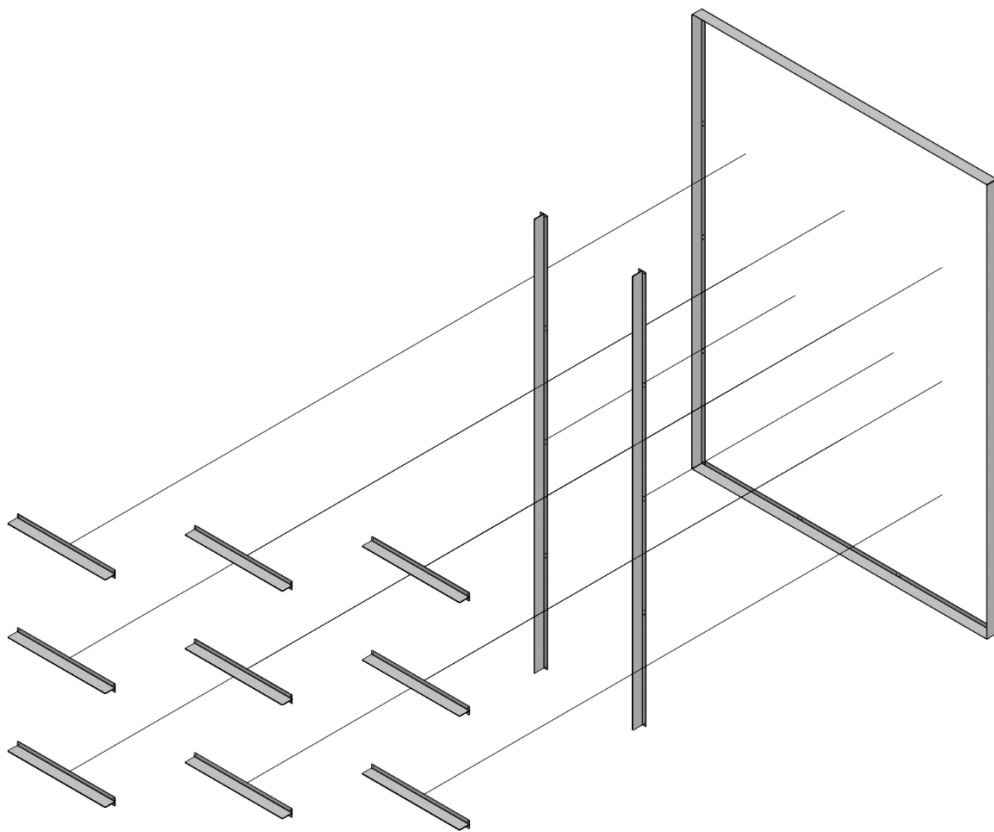

Figure 1 - Standard Filter Grid Assembly
- Locate parts beginning with “DT” for “Divider Trim”. Divider parts which are longer than 24 inches run vertically, connecting the top and bottom of the frame as shown in the exploded view in Figure 1.
- Locate the remaining divider parts. These parts will connect the vertical members together as shown in Figure 1. Place them on top of the vertical members, lining up the screw holes.